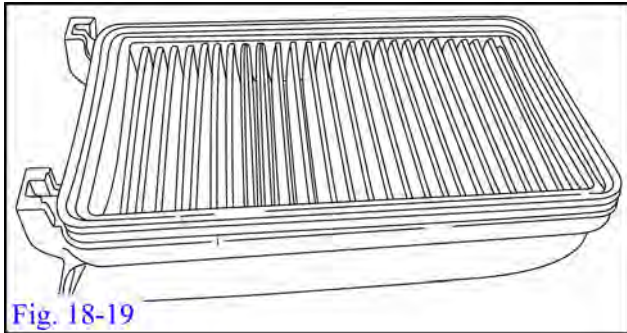

Fig. 18-19
- (y) Install supplied TRD air filter into air cleaner inlet. (Fig. 18-19)
- (1) The filter gasket should seal flush with the air cleaner inlet.